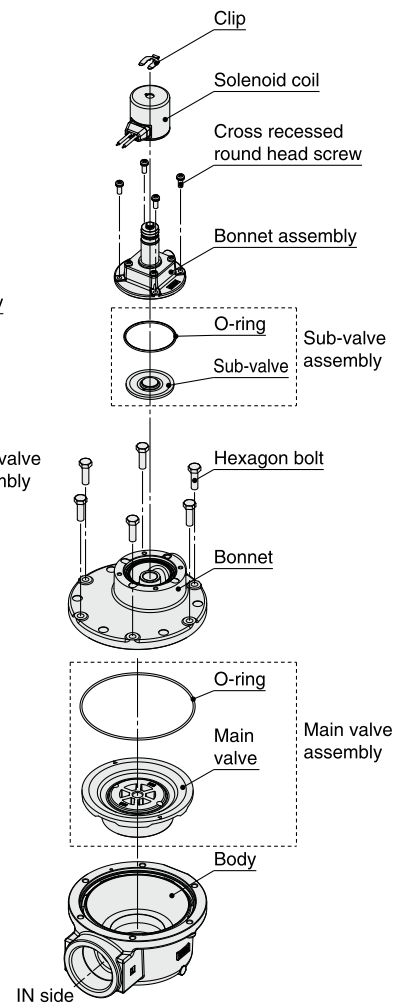

Fig. 2 O-ring position
- 2) Mount the O-ring to the body groove. (See Fig. 2.) After mounting the O-ring, check to make sure that the O-ring is fitted properly into the groove. If it is not in the groove, external leakage and/or operation failure may occur.